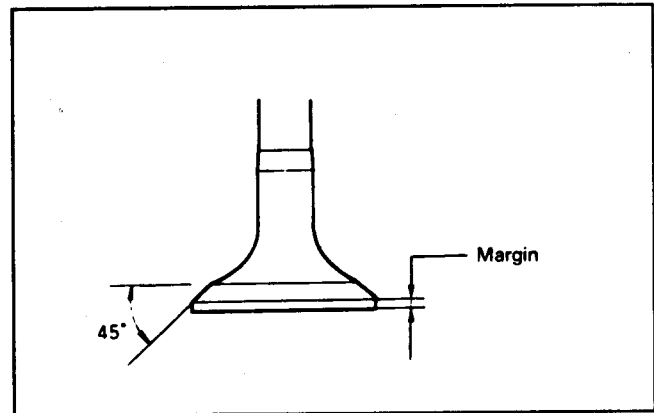

Figure 65
2. Check the valve face and valve stem for excessive wear, damage, cracks or deformation. If any of these conditions exist, the valve must be replaced. It is possible to reface the valve if the valve head thickness (margin width) is not less than the service limit (Fig.65). If the margin of the resurfaced valve is less than the service limit, replace the valve.